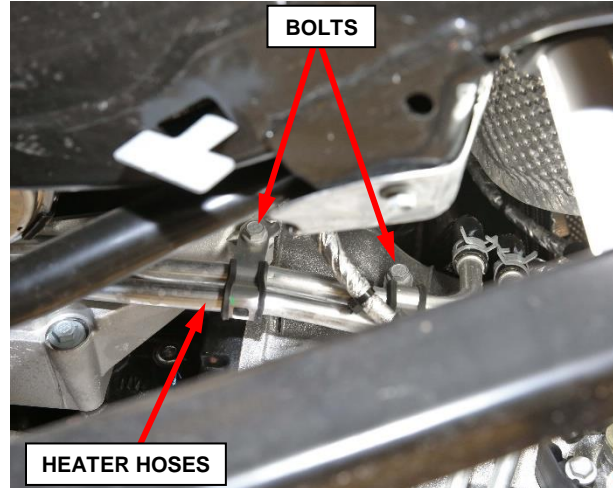

Figure 41 – Oil Heater Hoses
53. Remove the two bolts retaining the transmission heater coolant hoses on left side of vehicle (Figure 41).
83. Position the transmission oil heater lines on left side of the vehicle then install the two bolts and tighten to 20 N·m (15 Ft. Lbs.) (Figure 41).